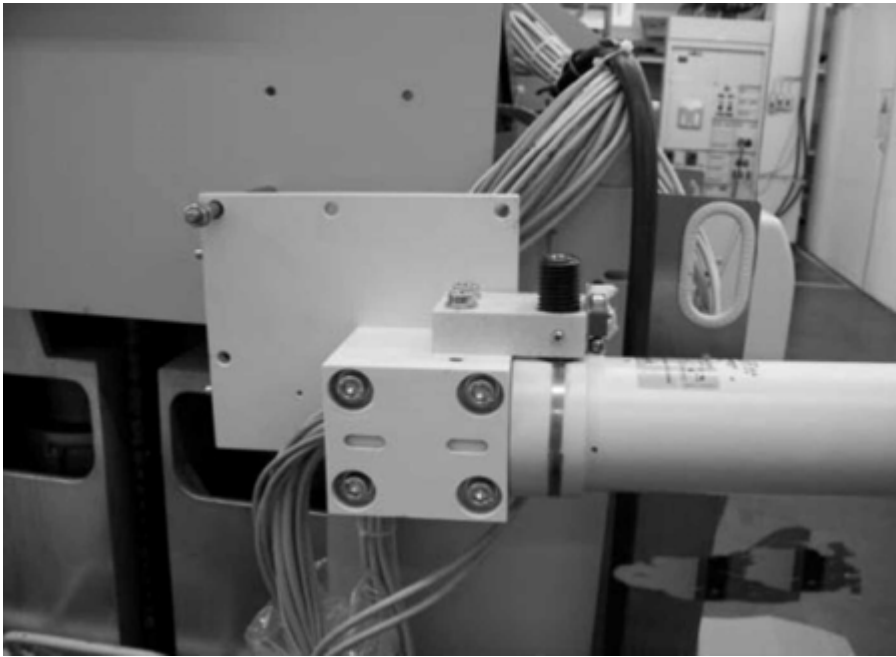

Fig. 46: Unit connection for the support arm
- In the right-side unit layout, screw the bolt into the bottom left thread (M8) of the 5 fastening threads in the unit connection of the TFT support arm (Fig. 46 / p. 70).
- Screw the securing nut onto the bolt (Fig. 46 / p. 70).
- Remove the bolt (Fig. 46 / p. 70).